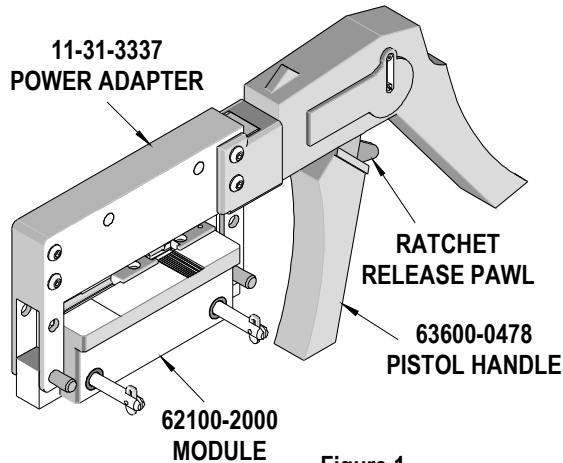

Figure 1
- c. Rotate the stops back into stop position. See Figure 1.
5. Terminate the connector onto the cable by squeezing the tool handle until the ratchet releases allowing the tool to open. See Figure 1. There is a full cycle ratchet mechanism. Should this tool jam the ratchet mechanism will prevent the handle from being released before the termination is complete, and the cycle will not be completed. Use the ratchet release shown in Figure 1 to reset the hand tool.